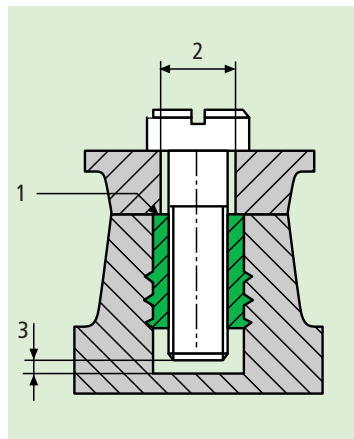

Fig. 18
The part requiring fastening should be flush with the threaded insert, see (1, fig. 18). For this reason, **the bore-hole (2) should be closely dimensioned and not countersunk.** The B-Lok[®] press in flush into the formed part (1).